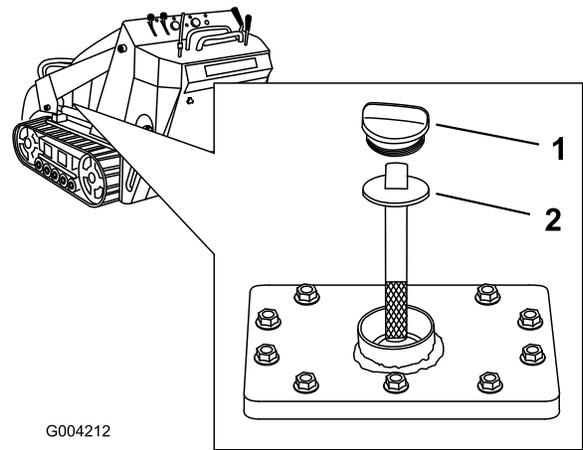

Figure 53
5. Remove the hydraulic tank cap and dipstick (Figure 53).